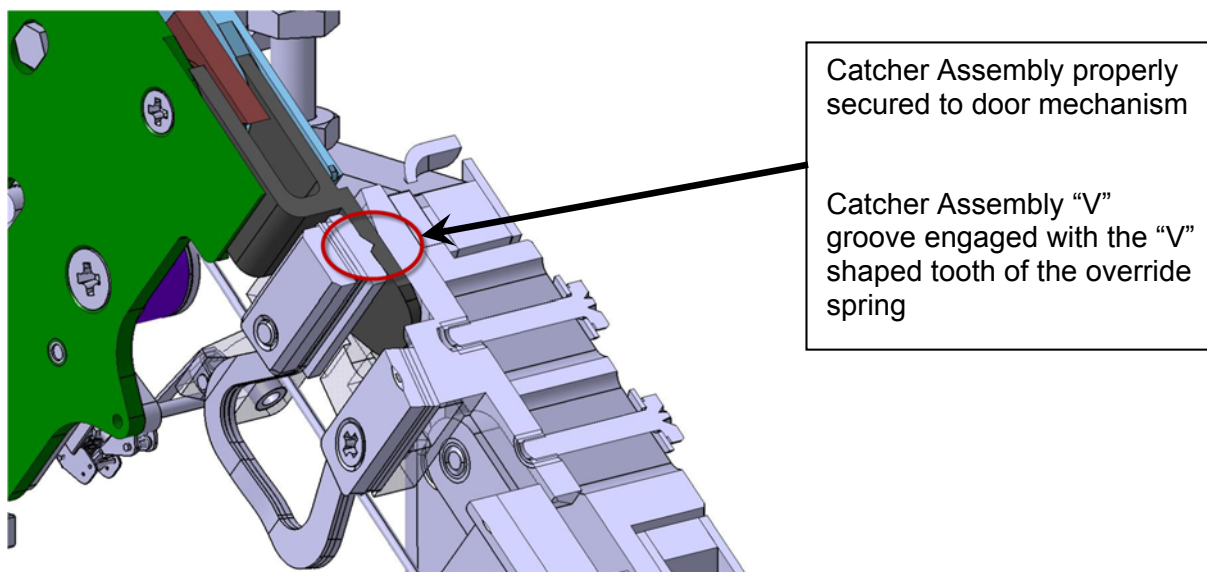

Figure 3 – Catcher Assembly Secured to Door Mechanism with Door Shown Latched Properly in Fully Deployed Position
- When the manual override is used, the door will subsequently release from the fully stowed position properly, but the override catcher assembly needs to be re-engaged (Figure 3) for the door to properly latch in the fully deployed position.